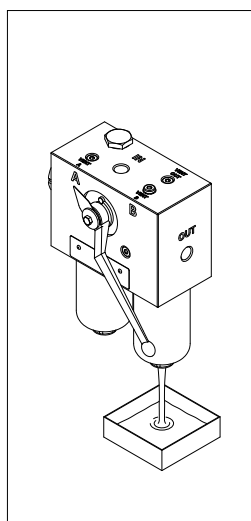

fig. 25
- (Fig. 25) Drain the operating fluid from the bottom of the bowl into the collection vessel